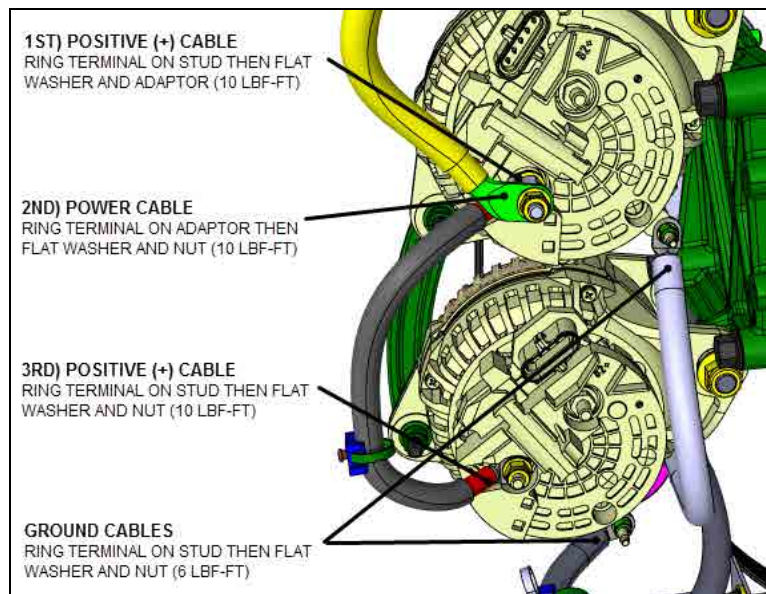

FIGURE 23
13. Cable connection overview. Upper and lower alternator (**FIGURE 23**).